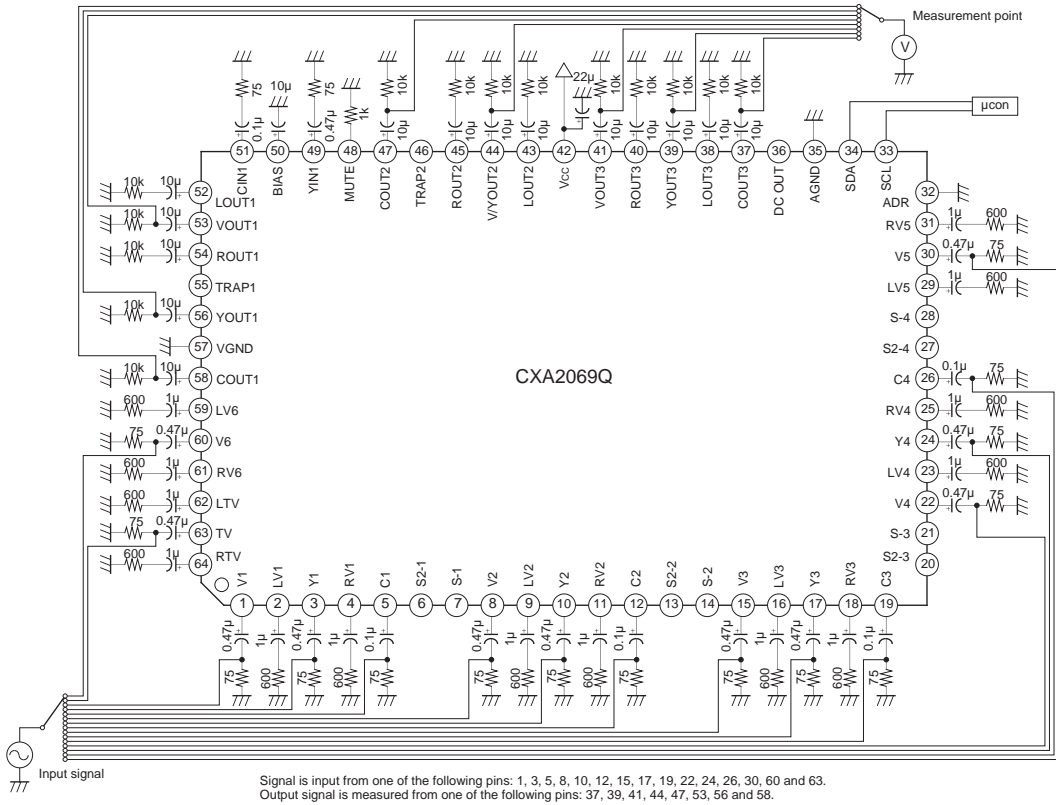

Fig. 1 Video system (gain, frequency response characteristics, input dynamic range, cross talk) measurement circuit
**Video system** (Measurement circuit ; Fig. 1)